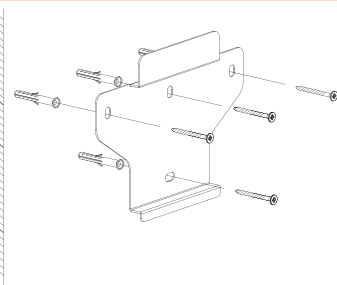

Figure 4-6 Fixing the wall bracket
- ③ Insert the expansion tubes into the holes and tighten them, then fix the bracket onto the wall with expansion screws by using a cross screwdriver, as shown in Figure 4-6: